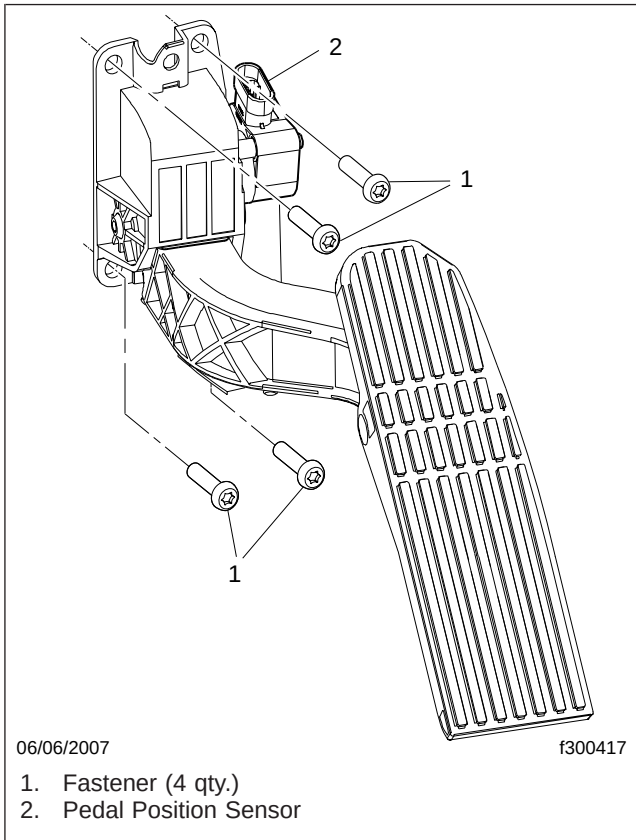

Fig. 3, Accelerator Pedal Assembly
7. Remove the four fasteners that secure the accelerator pedal assembly to the frontwall. See Fig. 3.